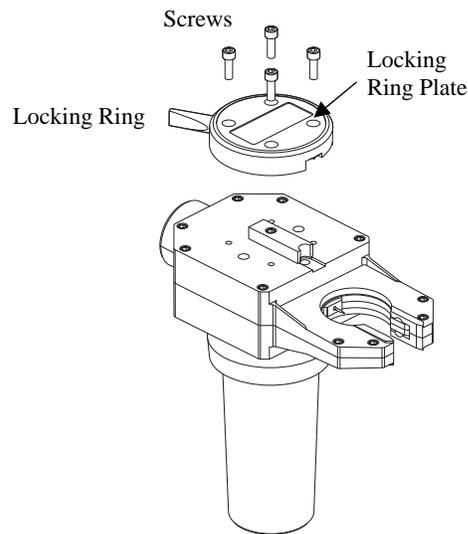

Figure 23 Removing the Locking Ring and Locking Ring Plate
2. Remove the four screws, locking ring, and locking ring plate. See Figure 23.